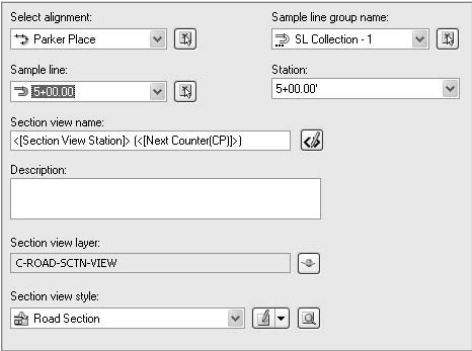

Figure 11.10
4. Click Next twice to advance through the Create Section View - Offset Range and Elevation Range dialog. Note that the Automatic radio button is toggled on for both elements (see Figure 11.10). This means that the program will make a decision about how wide and how tall to make the section view.